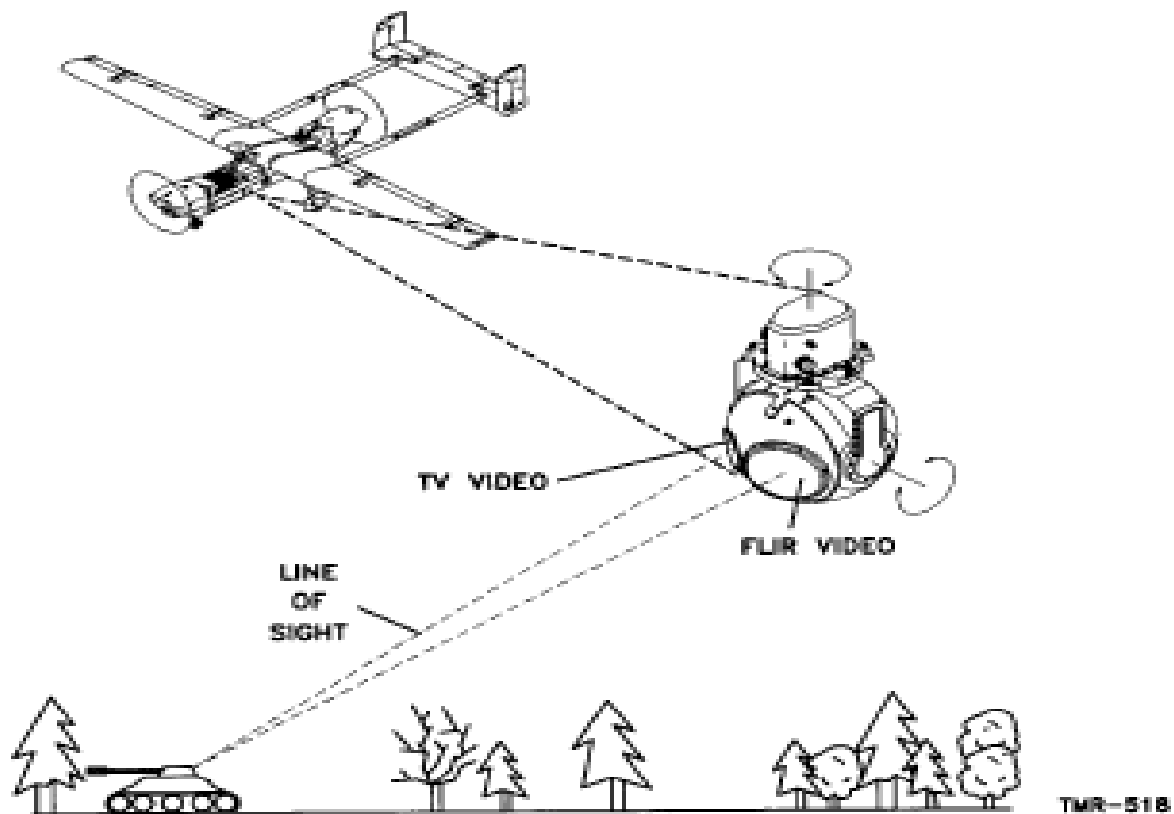

Figure 8-1. MOSP - General View.
The Multi-Optronic Stabilized Payload (MOSP) system (**fig. 8-1**) is an airborne mission payload for surveillance and target identification. It is installed on the MQ-5B Hunter Air Vehicle (AV) and it is controlled remotely from the One System Ground Control Station (OSGCS) by the Mission Payload Operator (MPO) through the data link communication. The MOSP provides optical, real-time Infra Red (IR) image, or TV camera video image of the target area during day and night missions. The system includes an Automatic Target-Tracking and a Laser Designation/Range Finder (LDR) capabilities, depending on the system configuration.